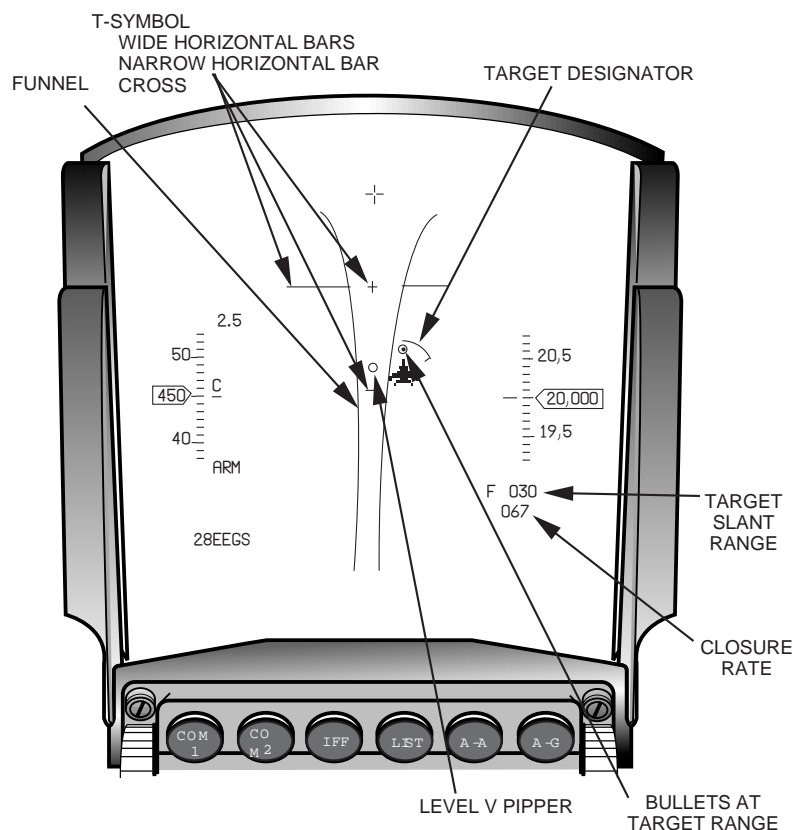

Figure 4-12 EEGS Level V Display
**Level V** The Level V solution is displayed (Figure 4-12) when a full radar lock-on has been achieved and the target's range, velocity, acceleration, etc. have been determined. The Level V display includes the funnel, a T-symbol to provide lead angle boundaries, target designator, and a Level V 4-milliradian piper (displayed when the target is in range).